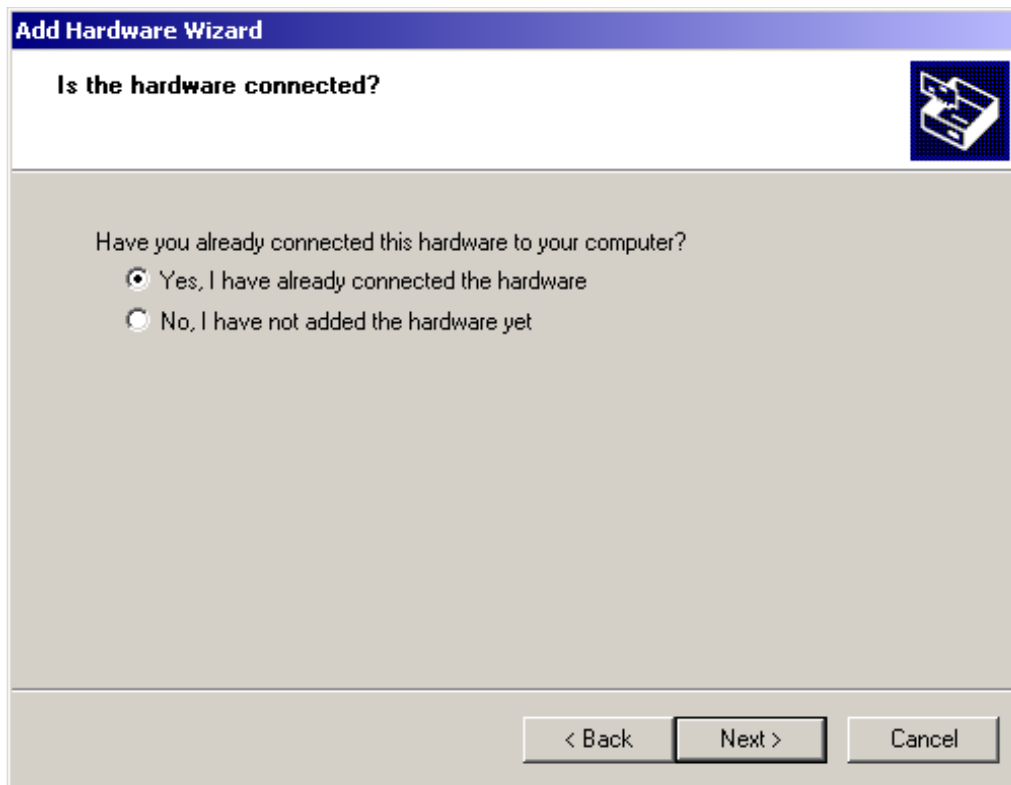

FIGURE 187. Is the hardware connected screen
6. As in Figure 187, the Wizard will prompt you to determine whether or not the hardware has already been connected.